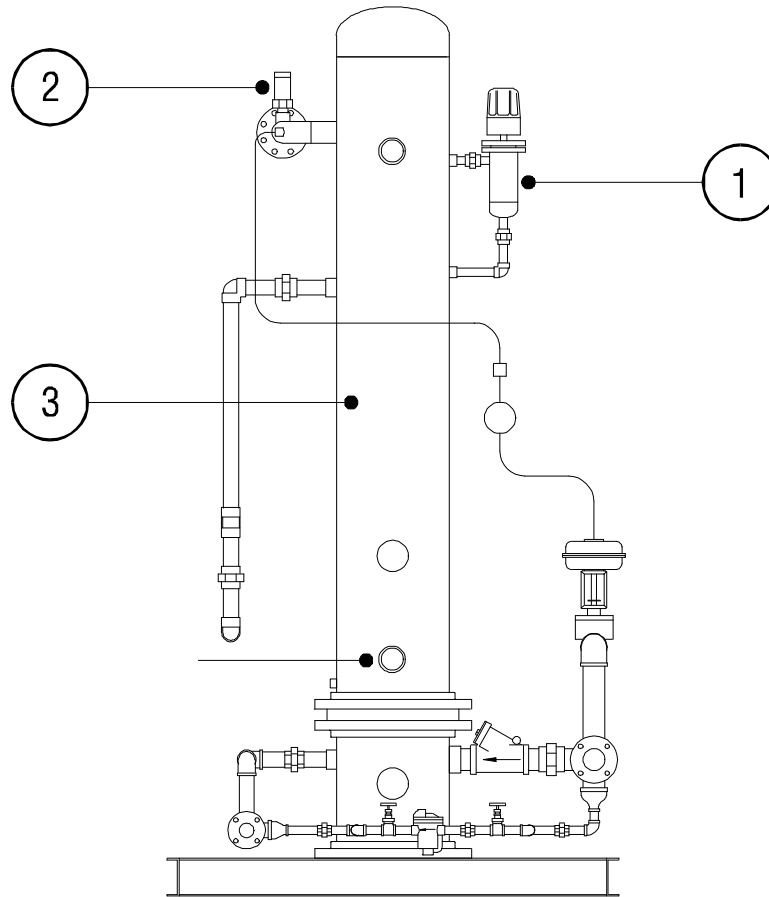

Figure 2-2 - Typical VS Series Vaporizer System
2.04 Figure 2-2 illustrates a typical VS Series Vaporizer system and is provided with key number callouts for the liquid level float assy., safety relief valve and the heat exchange shell. Associated